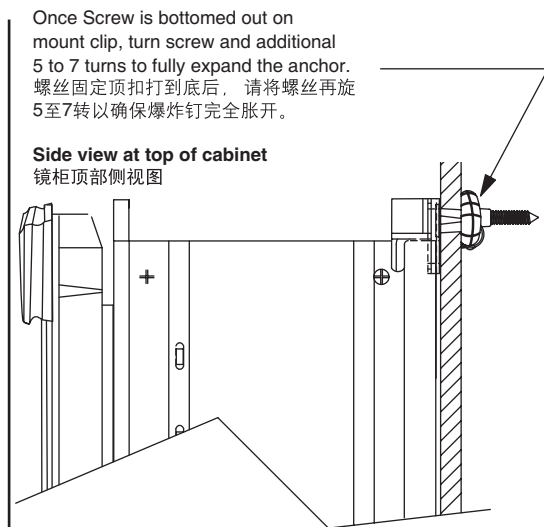

Fig. 6 图6
- 4) See Fig. 6 on next page for proper turns required for anchor cinching.
- 4) 按图6要求旋紧螺丝。